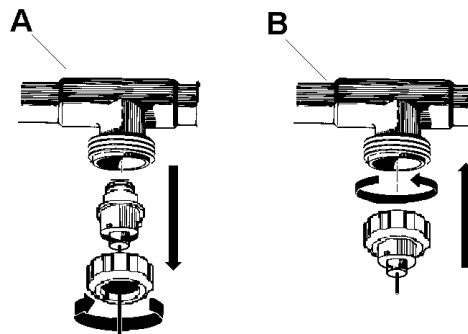

Figure 9
6. Remove the coupling nut from the sensor to be replaced. Remove the sensor by gently pulling straight down (refer to *Figure 9 – A*). The sensor is held in place by a rubber “O” ring.
8. Slip the coupling nut over the electrical connector and then onto the housing threads and hand tighten the coupling nut (refer to *Figure 9 – B*).